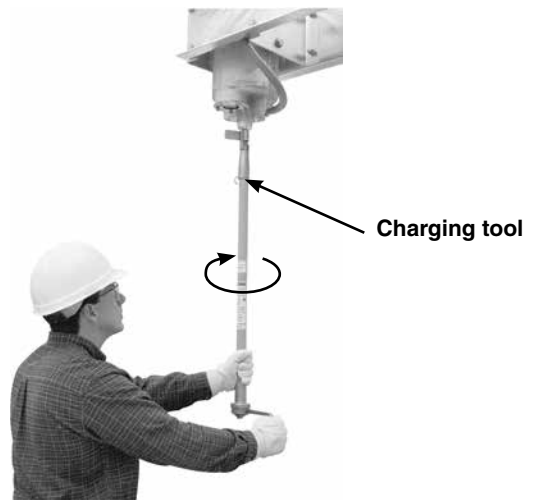

Figure 55. Rotate the tool handle clockwise until the internal stop is reached.
- c. Rotate the charging tool handle *clockwise*, as indicated on the tool, to reset the pole-unit mechanism. See Figure 55. Approximately 40 revolutions are needed. Keep turning until the internal stop is reached. Then remove the charging tool.